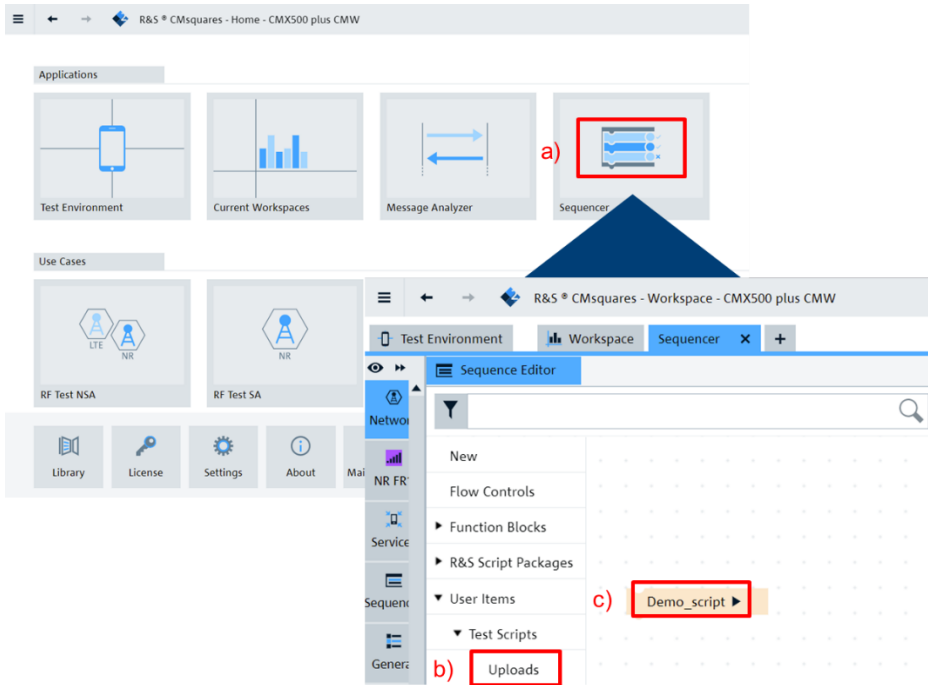

Fig. 2-26 Load CMsequencer block
3. Load the building block in CMsequencer (see Fig. 2-26)